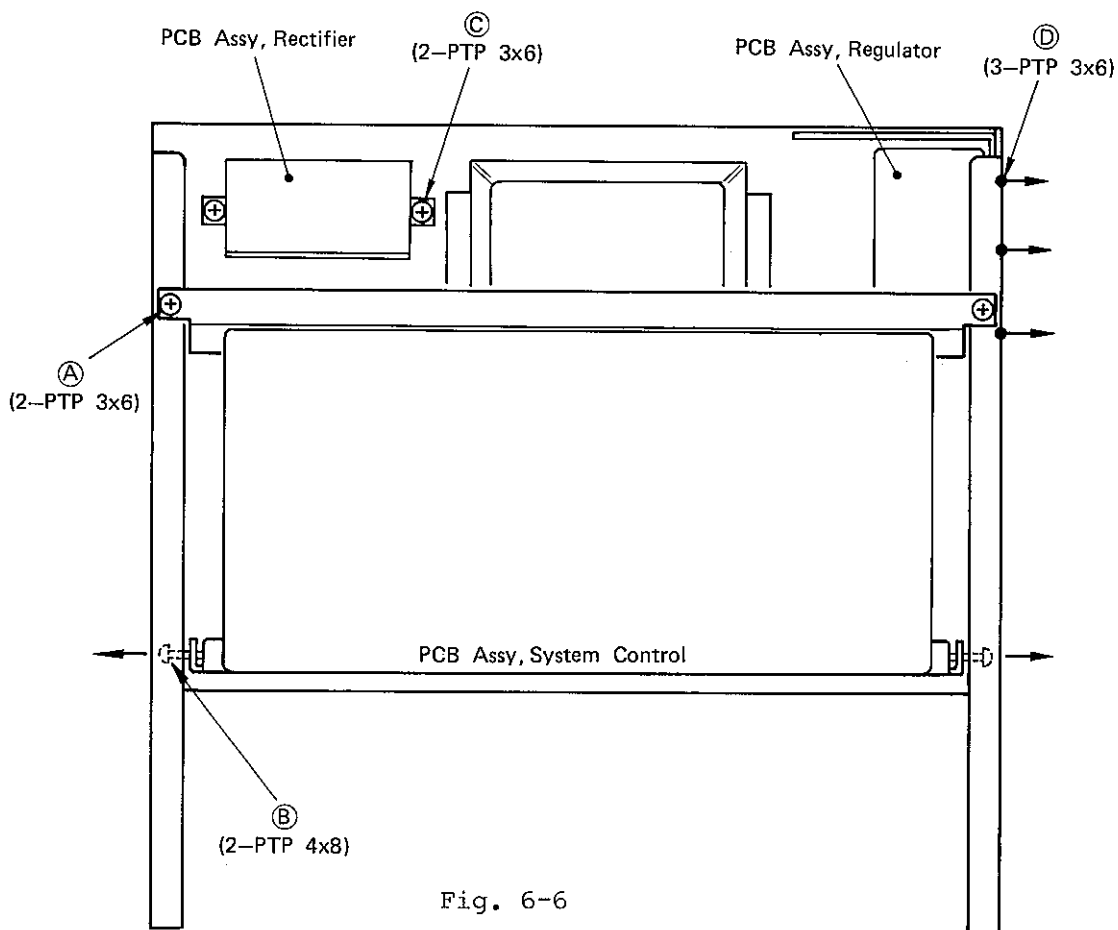

Fig. 6-6
7) System control PCB assembly (Fig. 6-6)
8) Rectifier assembly (Fig. 6-6)
9) Regulator assembly (Fig. 6-6)